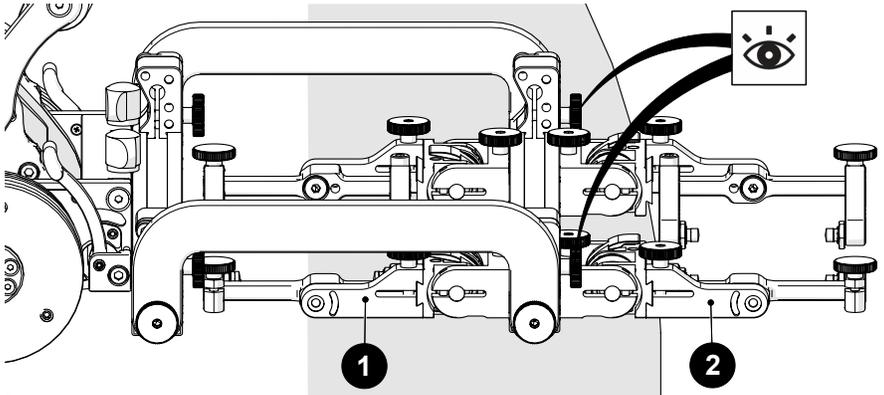

Fig. 172 - Position primary and secondary probe holders
3. Mount the low profile probe holder frame to the crawler (see *Cable Retainer* on page 51 for additional details). When mounting the low profile frame, ensure the attachment knobs (Fig. 172) are at the front (non crawler side).